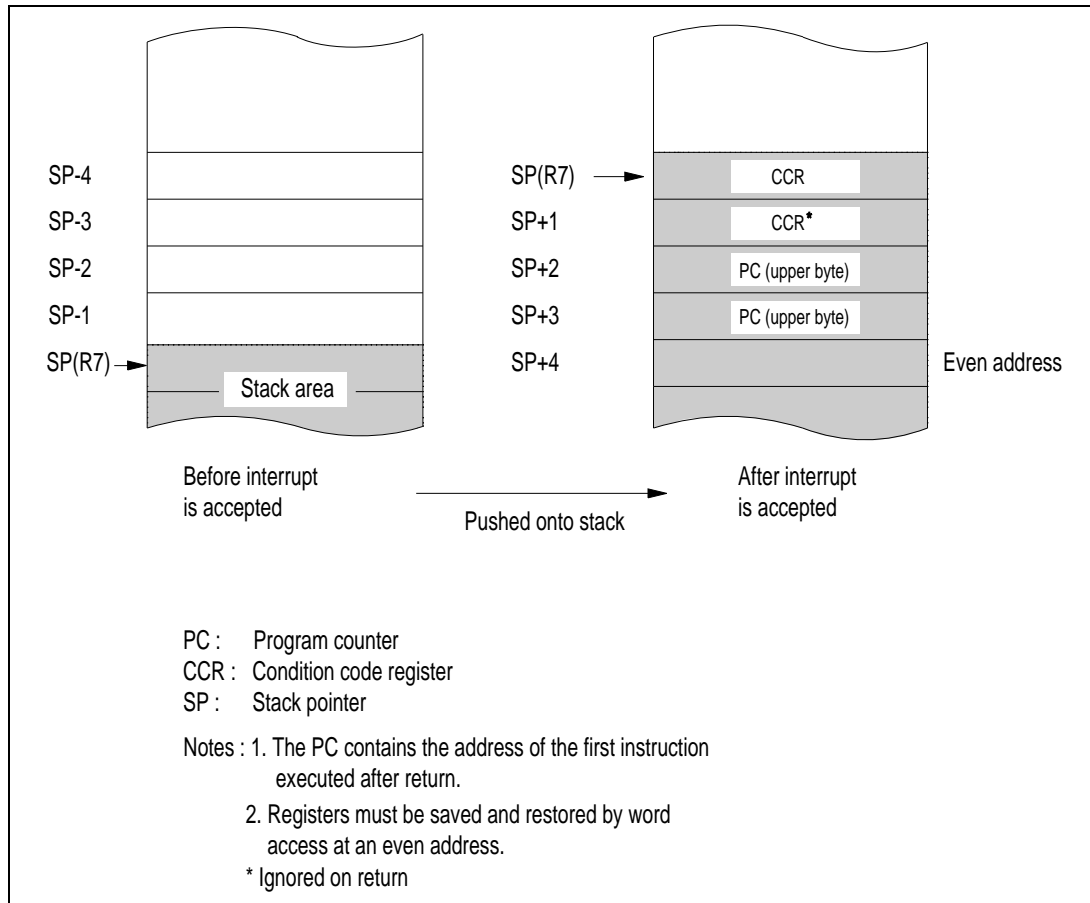

Figure 4-5. Usage of Stack in Interrupt Handling
- (1) An interrupt request is sent to the interrupt controller when an NMI interrupt occurs, and when an interrupt occurs on an IRQ input line or in an on-chip supporting module provided the enable bit of that interrupt is set to “1.”
- (2) The interrupt controller checks the I bit in the CCR and accepts the interrupt request if the I bit is cleared to “0.” If the I bit is set to “1” only NMI requests are accepted; other interrupt requests remain pending.
- (3) Among all accepted interrupt requests, the interrupt controller selects the request with the highest priority and passes it to the CPU. Other interrupt requests remain pending.
- (4) When it receives the interrupt request, the CPU waits until completion of the current instruction or hardware exception-handling sequence, then starts the hardware exception-handling sequence for the interrupt and latches the interrupt vector number.
- (5) In the hardware exception-handling sequence, the CPU first pushes the PC and CCR onto the stack. See figure 4-5. The stacked PC indicates the address of the first instruction that will be executed on return from the software interrupt-handling routine.
- (6) Next the I bit in the CCR is set to “1,” masking all further interrupts except NMI.
- (7) The vector address corresponding to the vector number is generated, the vector table entry at this vector address is loaded into the program counter, and execution branches to the software interrupt-handling routine at the address indicated by that entry.